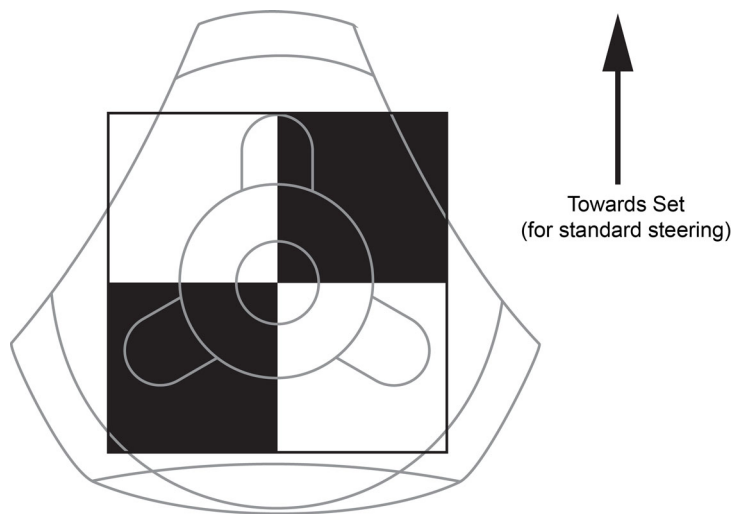

Figure 112 - Positioning a Vinten SP2000 Pedestal Over its Target
Typically, the target is installed square to the set, oriented as shown in Figure 112. This orientation is optimal for standard steering, in which the direction of pedestal motion is relative to the target orientation. For more information, see “**Standard Steering and Pan-Relative Steering for XY Pedestals**” on page 141.
3. Use the joystick panel to position the pedestal over the target sheet as shown in Figure 112.
Tip: The first time you target each Vinten XY pedestal, create a preset at that position. Anytime you want to target the pedestal, you can recall the preset to quickly move the pedestal to the target sheet. You must rotate the pedestal to the orientation shown in Figure 112 before targeting it. You can also recall the preset to park the pedestal between shows, to make targeting before the next show easier.